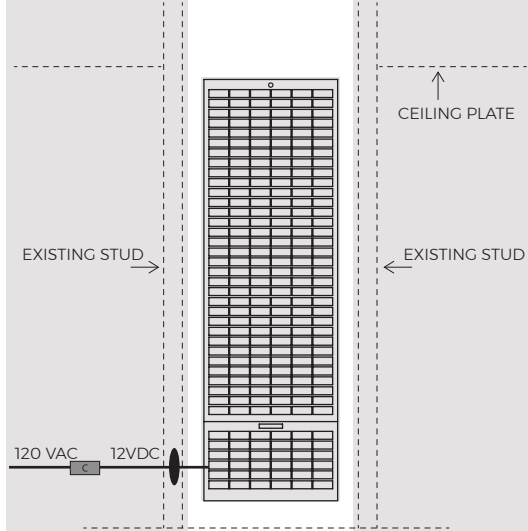

FIGURE 2
- YOU CAN RUN THE WIRE THROUGH THE HEADER PLATE GROMMET IF NEEDED. (**FIGURE 2**)